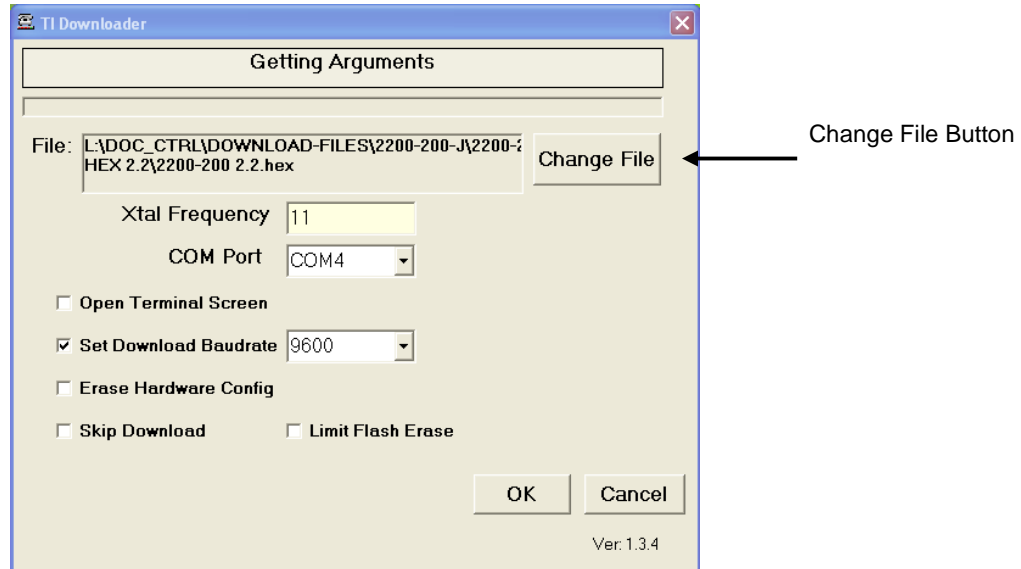

Figure 3
12. If a wrong file is chosen or a change needs to be made after choosing a file, click the “**Change File**” button located on the TI Downloader window (Fig. 3) to change the HEX file.